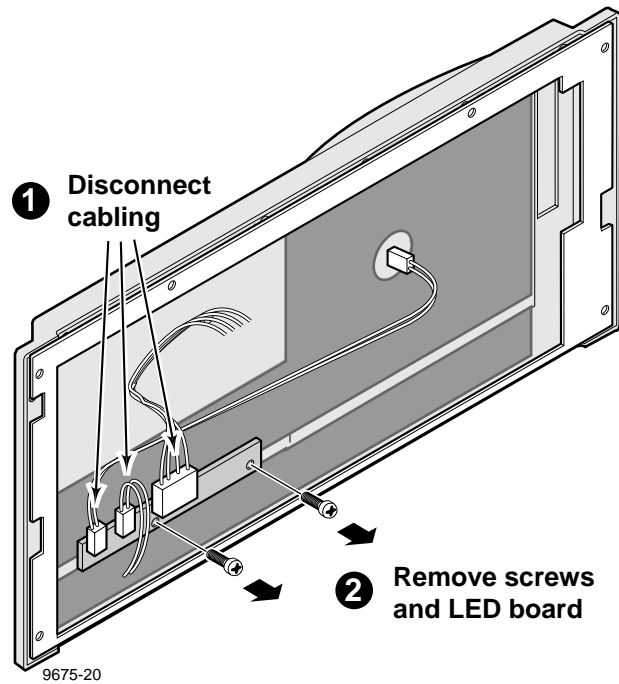

Figure 6-7. LED Board Removal
7. Disconnect all cables from the board (1 in Figure 6-7).
8. Use the Torx tool with the T10 tip to remove the screws which secure the board to the panel (2 in Figure 6-7).
1. Use the Torx tool with the T10 tip to attach the LED board to the front panel (Figure 6-7).